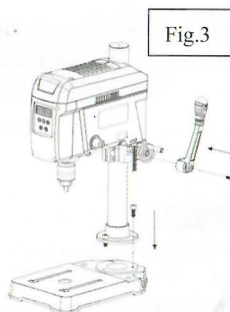

Fig.3
- 2, Place the Tube Assy. (75) on the base(77), and keep align the holes on the base.
- 3, Using attached 6mm Hex Key to tight the two pieces Hex Bolts(76) on the side of base. (Fig.3)